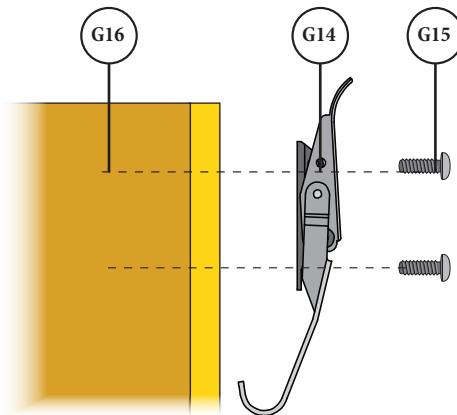

FIG. 2
- 2** Align the Latches (G14) onto the holes on either side of the Wall Bracket (F) and secure them in place using two Pan-Head Screws (G15) and Nylock Nuts (G16) [FIG 2].